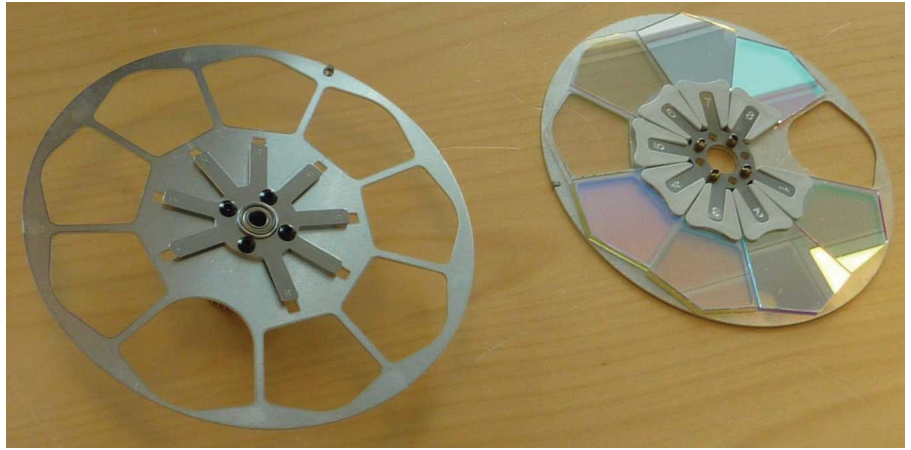

Figure 10
12. See Figure 10. Transfer the filters from the old color wheel to the new one (P/N 62326075) supplied in the kit. Replace one of the colors with the blackout flag (Color Wheel Shutter, P/N 62327266) supplied in the kit if required.